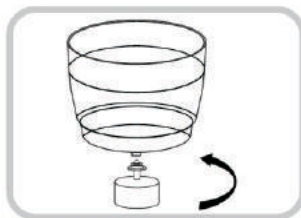
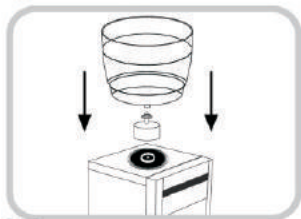

Fig.6
Fig.7
- Screw on the Floating Valve to the bottom of the Lower Barrel (Fig. 6). Place the Lower Barrel with the Floating Valve attached on top of the water dispenser. Make sure the Lower Barrel sits properly level and secure on top of the water dispenser. Once the Floating Valve is attached to the Lower Barrel, it will remain suspended inside the water dispenser. (Fig. 7).